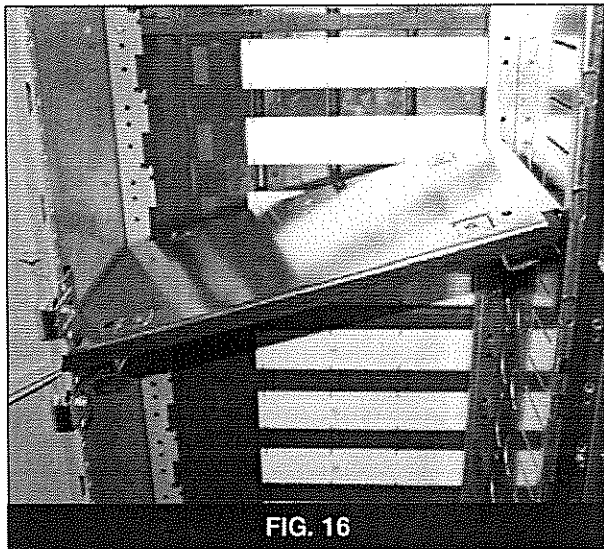

FIG. 16
3. Install the unit partition by first positioning the front left slots (see Fig.16), then the left rear slots. Push down the right side of the partition until completely horizontal. Fasten the partition to the vertical wireway wall with two 1/4-28 x 3/8 self-tapping screws provided (screws should be installed from the vertical wireway).